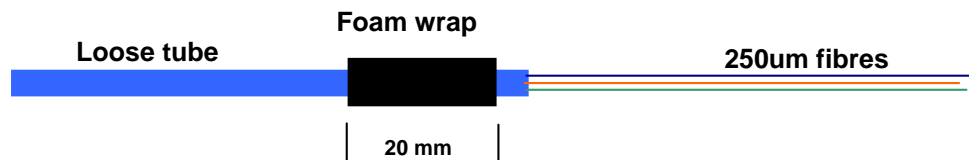

Figure 10. Foam adhesive tape wrap around loose tube
- a) Wrap a 20mm length of foam adhesive tape (longitudinally) along the end of each the loose tube as illustrated in Figure 10. Repeat procedure for other loose tubes.